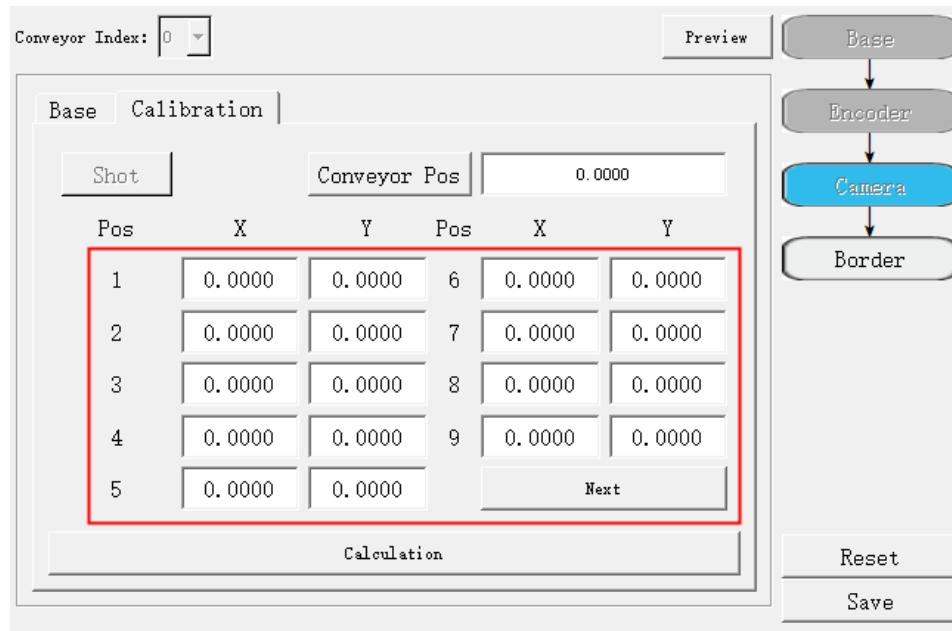

Figure 5.17 Get the image coordinates
4. Get the image coordinates of the nine points on the calibration board from the vision software after the vision system finds the calibration board and input them to the corresponding positions on the calibration page, as shown in Figure 5.17.